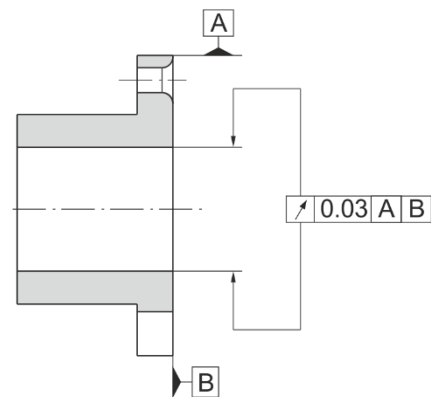

Fig. 4
- ❑ The recommended bore tolerances are to be produced using the position and tolerance width as references; at the same time, please keep to the shaft run-out and axial run-out tolerances of 0.03 mm (see Fig. 4).